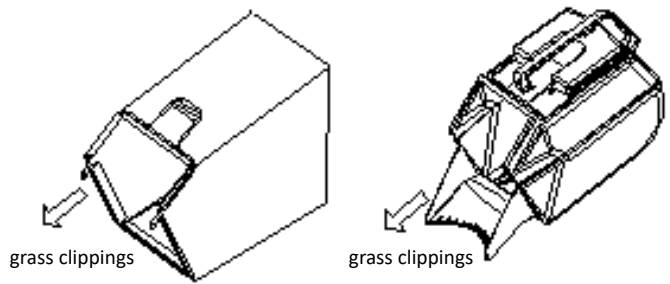

Fig.15
EMPTYING THE GRASS COLLECTOR (Fig. 15)
- Hold the top handle and shake the grass collector to remove the cut grass (see Fig.15).